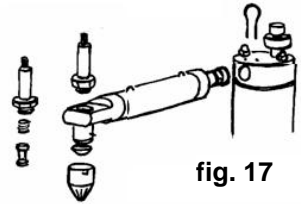

fig. 17
- With the wrench, unscrew the Upper Closing Unit and lift-out the Magnetic Core and spring. Remove Garnishing Nozzle. (fig. 17)
- Remove Locking Device from Valve Head. Turning lightly pull Cream Whipping Assembly out of its housing. (fig. 17)
- Place the spring and the Magnetic Core in the Upper Closing Unit and with the wrench screw the Upper Closing Unit onto the Outlet Part. (fig. 17, page 18)